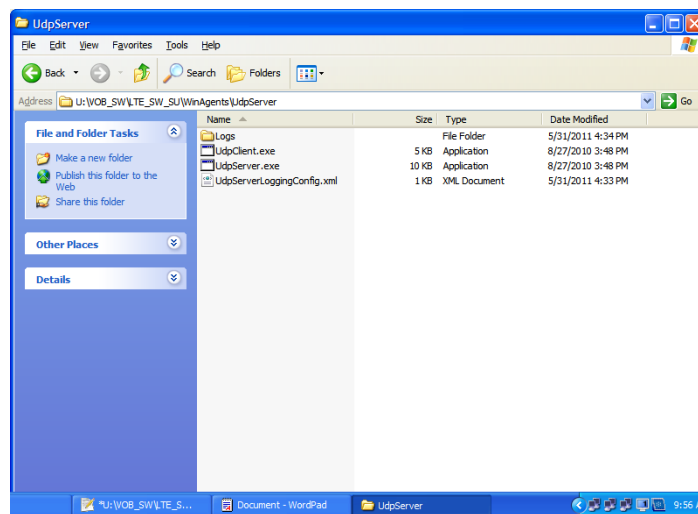

Figure 2-57: UdpServer Folder
1. Under *My Computer*, navigate to: U:\VOB_SW\LTE_SW_SU\WinAgents\UdpServer, as shown in Figure 2-57.